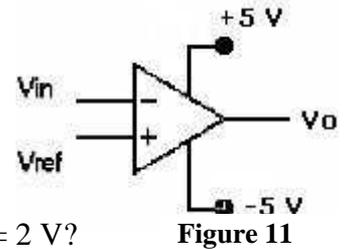

Figure 11
- 1- Refer to Figure 11, set $V_{ref} = 0 \text{ V (DC)}$, $V_{in} = 10V_{p-p}$, **1 kHz**.
- 4- Set $V_{ref} = 2 \text{ V (DC)}$ and repeat steps 2 and 3.